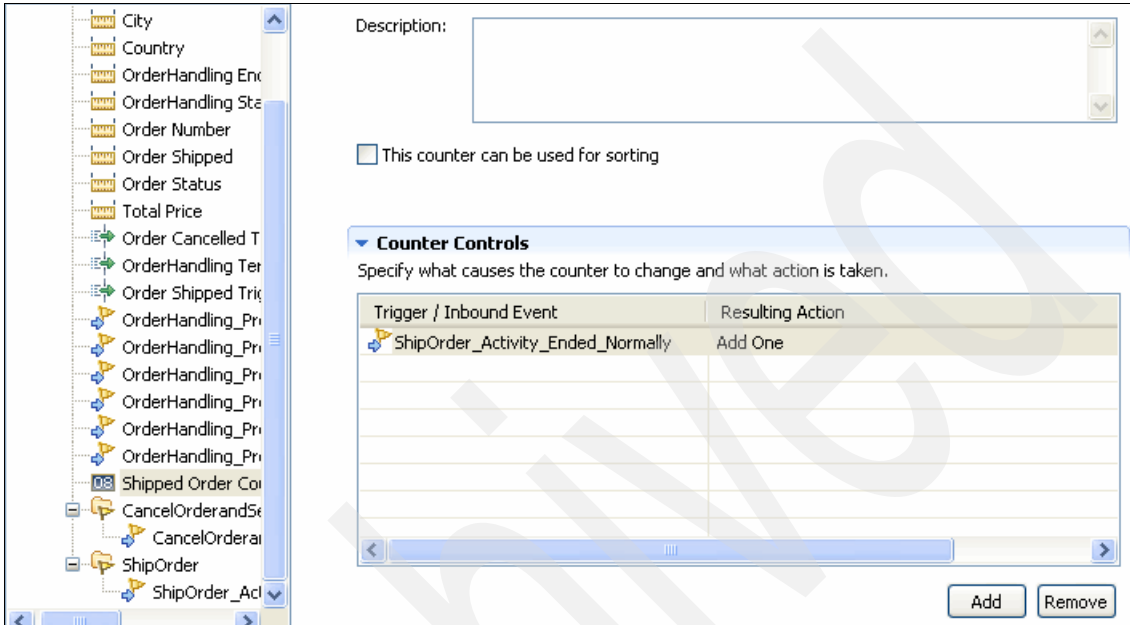

Figure 8-78 Verifying that the Resulting Action is 'Add One'
24. Under Counter Controls (Figure 8-78), ensure that Resulting Action for the selected inbound event is **Add One** so that after the ShipOrder activity completes successfully, the counter has a value of 1. This counter is used later in the dimensional model to calculate the sum of shipped orders.